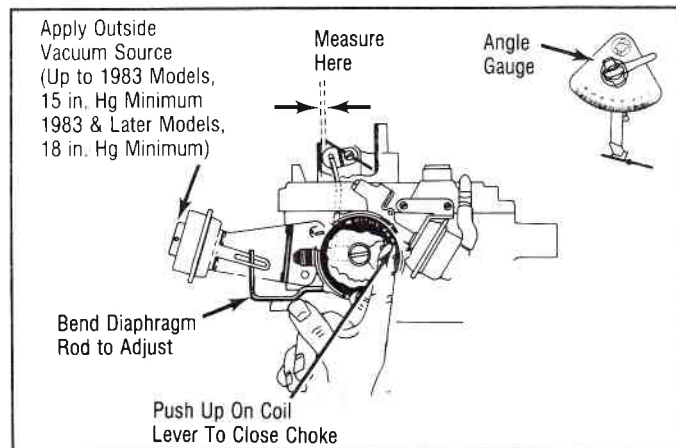

Fig. 9 Rear Vacuum Break Adjustment (1980 and Earlier Models)
1. Seat vacuum break diaphragm using an outside vacuum source of at least 15 in. Hg (1983 and later models, 18 in. Hg). Cover the bleed hole (if equipped) in end of diaphragm with tape. See Fig. 9.